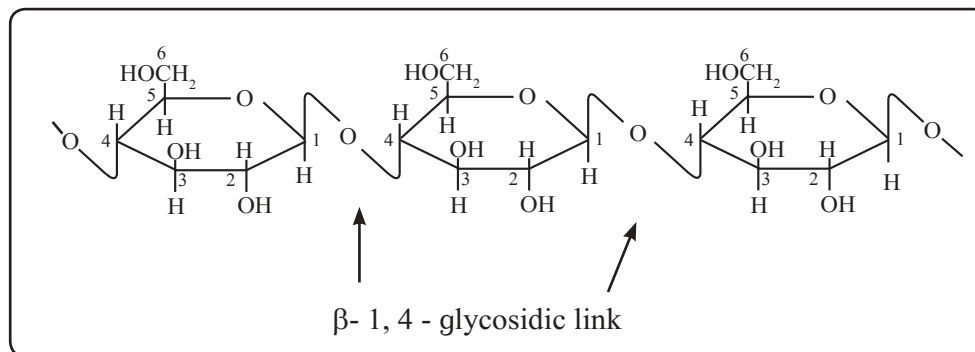

Fig. 14.13 : Cellulose
b. Cellulose : Cellulose is a straight chain polysaccharide of β -glucose units linked by β -1,4- glycosidic bonds. Chemical hydrolysis of cellulose requires use of concentrated strong acids at high temperature and pressure. This implies that the β -1,4- glycosidic bond is very strong and difficult to hydrolyse. Humans do not have enzymes which can hydrolyse this linkage. Hence cellulose cannot be digested by human beings; it serves as the fibrous content of food useful for bowel movement. Figure 14.13 shows the Haworth formula of cellulose.